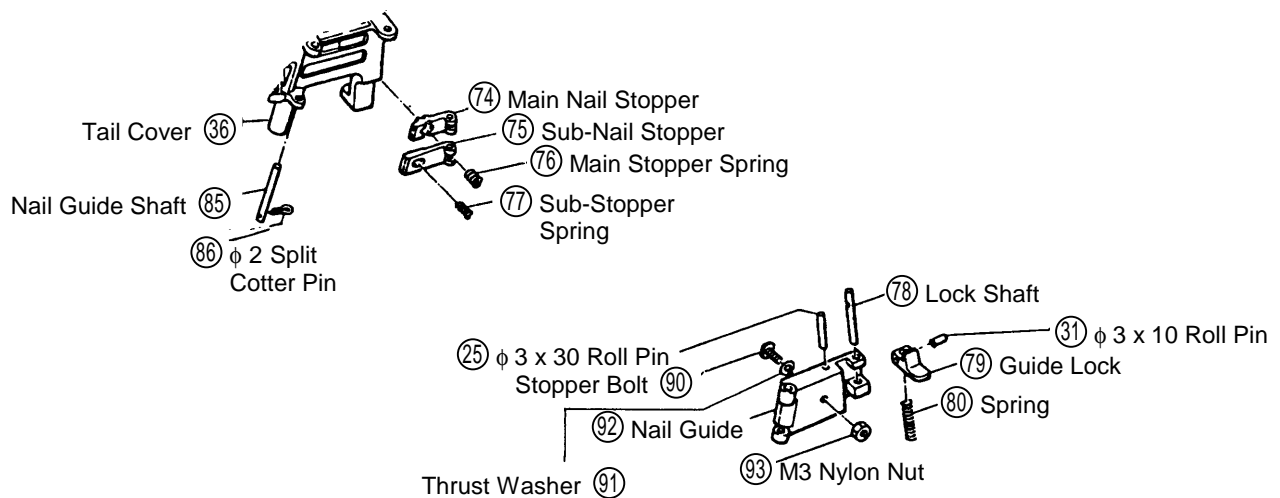

Fig. 17 Disassembly and Reassembly of Nail Guide
A. Nail Guide (92) (see Fig. 17):